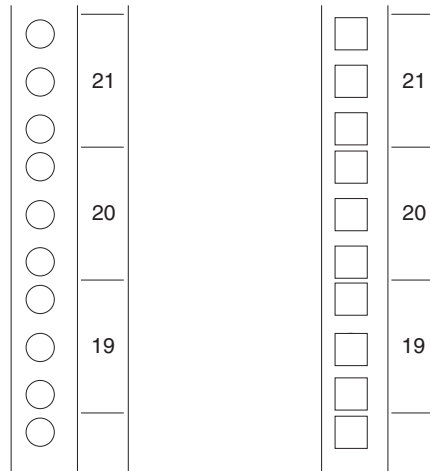

Figure 12. Measuring U levels within rack cabinets
All vertical rack cabinet measurements are given in rack units (U), where 1U is equal to 4.45 cm (1.75 in.). The U levels are marked on labels on the front and rear mounting flanges inside of the rack cabinet, as shown in Figure 12.